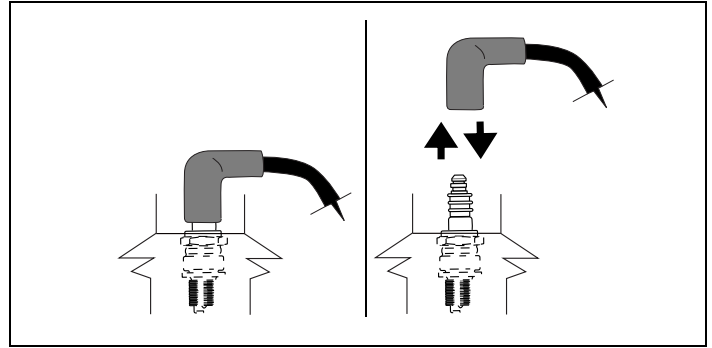

Figure 37. Disconnecting/Connecting Spark Plug
1. Carefully disconnect spark plug wire and keep it away from spark plug. See Figures 37 and 38. See "G. Avoid Accidental Starts" instructions on page 2. Afterward, continue reading instructions below.